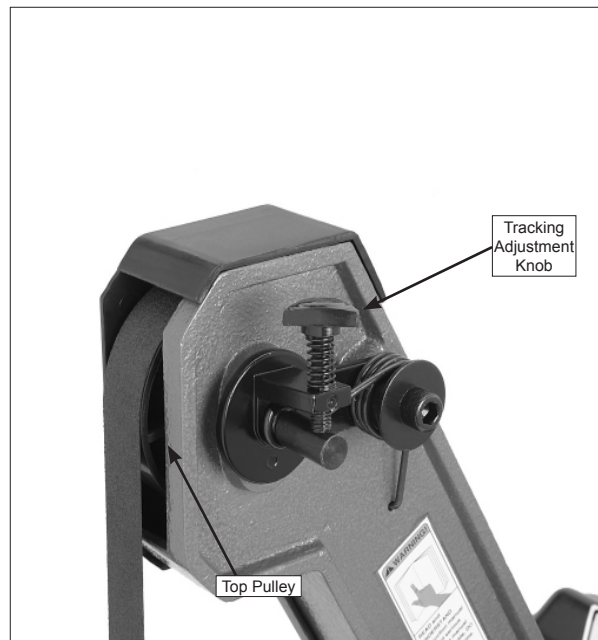

Fig.28
2. Observe the sanding belt as it moves over the top pulley (see Figure 28).